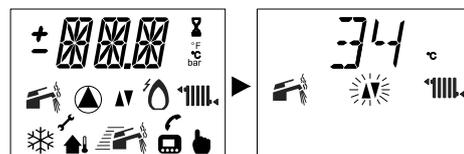

Figure 15.22
- To set the K coefficient, which is determined from Figure 15.22 access programming by pressing the reset button 6 in Figure 15.2 for 15 seconds until parameter **P01** appears on the LCD display; the following will appear on the LCD display (the